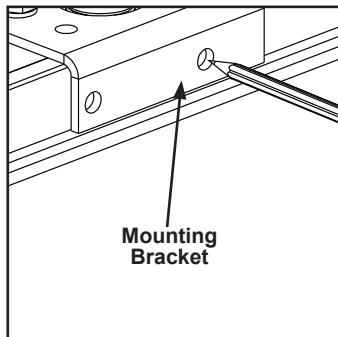

Figure 3-94
- Step 1. Use rail mounting bracket as template to mark rail. See Figure 3-94.